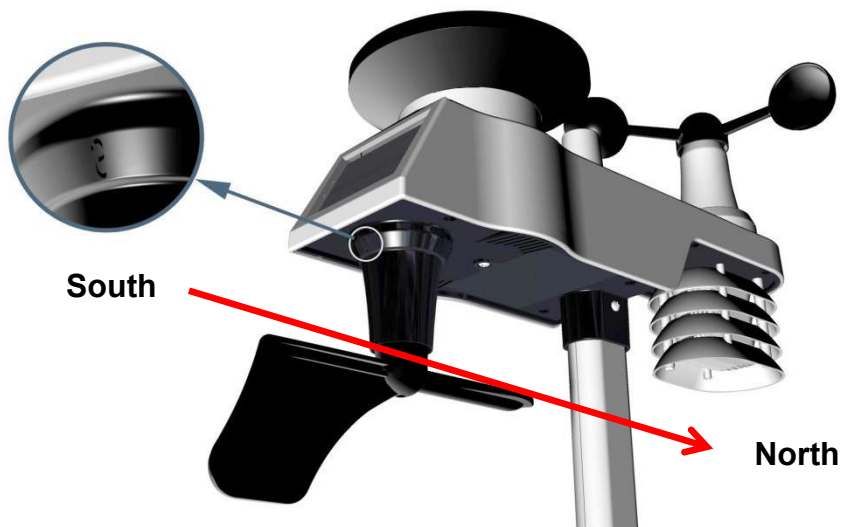

Figure 9
Step 1: There is a “S” indicator on the wind vane that indicates South, as shown in Figure 9. Check the wind directions with compass and Align this “S” marker in the direction of South.